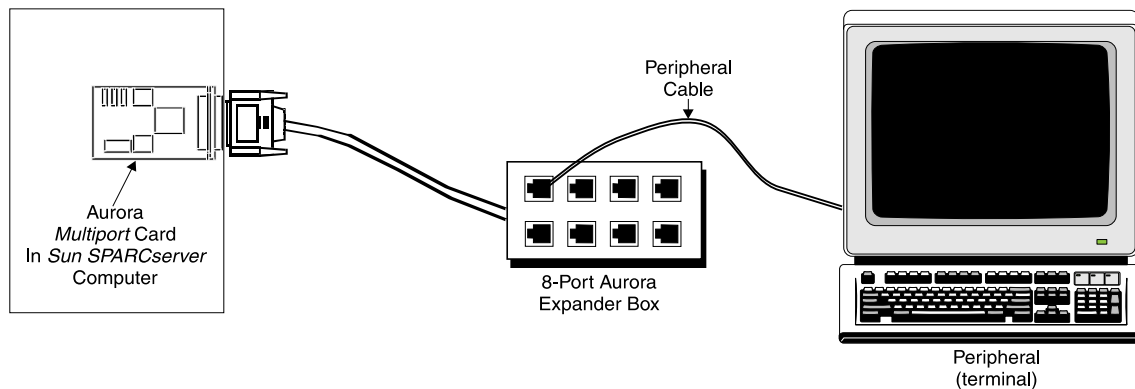

Figure 3-26: Connecting an Aurora Expander Box to a Peripheral
3. Attach one end of the cable to the peripheral, and the other to one of the distribution connectors (see Figure 3-26).